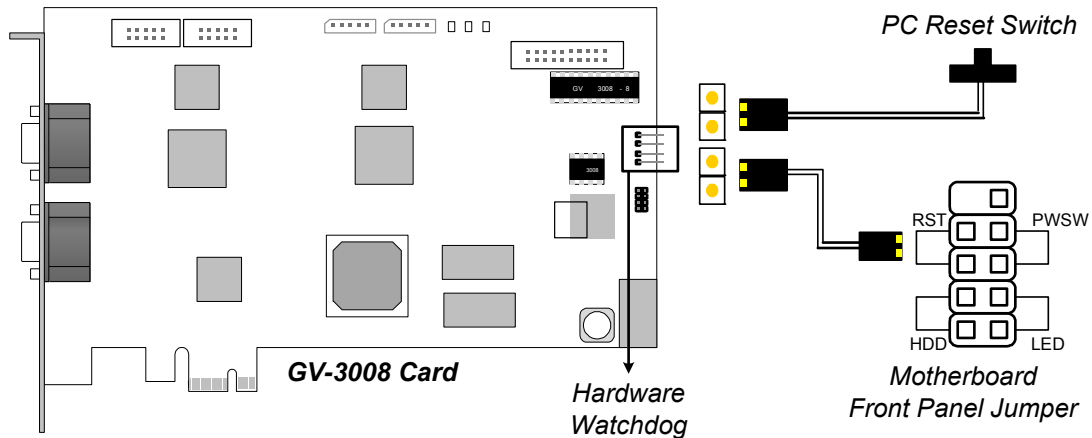

Figure 1-28
- Connect the supplied Hardware Watchdog Jump Wire (Figure 1-28).
- **Hardware Watchdog Connection:** Connect the supplied Hardware Watchdog Jump Wire to the Master Card only (Figure 1-28).